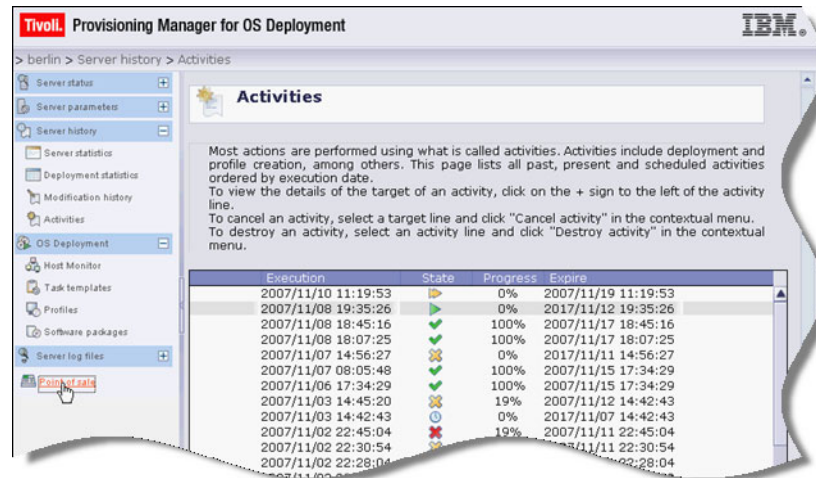

Figure 5-18 Selecting the Point of sale features from the left panel
1. Login to the web console and click on "Point of Sale" (Figure 5-18 on page 113).